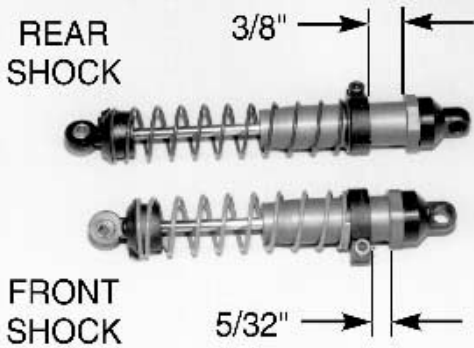

Fig. 131
□ **Fig. 131** Remove the two long #6480 (2.75" length) rear green springs and two short #7427 (2.25" length) front green springs from bag #7-11. Install one #6474 spring collar onto each of the long rear green springs. Do the same for the short front green springs. Slide the long springs onto the long rear shocks. Next slide the short front springs onto the short front shocks. Make sure the shock shaft is fully extended